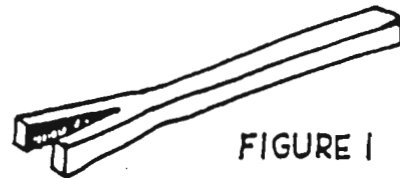

FIGURE 1
Mark the piece as shown in figure 1 at right and cut it into two pieces to form a pair of hack blanks. This can be done with a torch or with a hot cut chisel.
Step 1- Take the square stock and split one end for about 1". Spread the split slightly and clamp (this split end up) firmly in a vise. See figure 1.